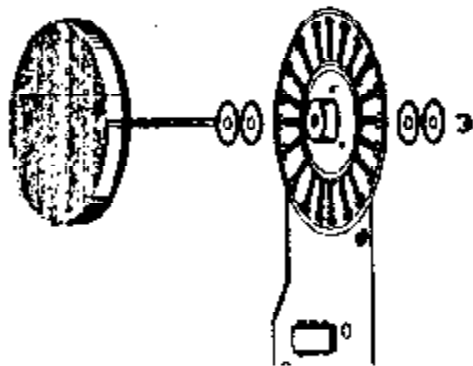

FIG 1
- 2 Remove shaft clip, if necessary ( Fig 1 ).
- 3 Slide shaft and armature out. Note placement of washers for reinstallation (Fig 1 ).